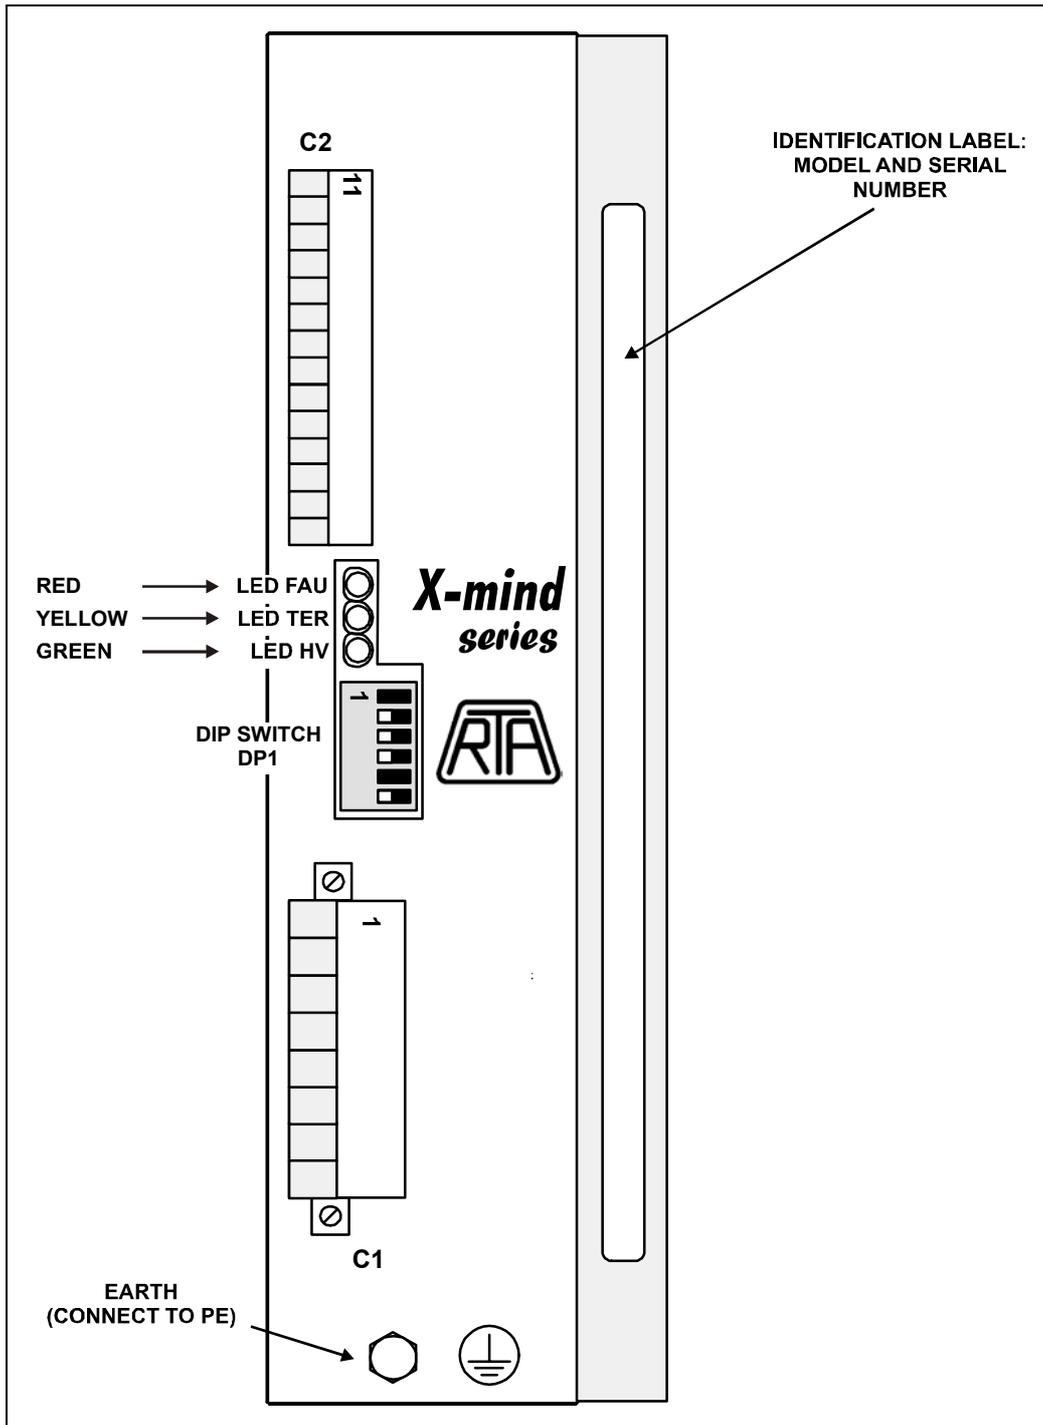

Fig. 4 – Dip-switches, signalling leds and connectors.
6.2 - Fig. 4 shows the position of DIP-SWITCH, signalling LEDs, connectors and labels in X-MIND B series drives.